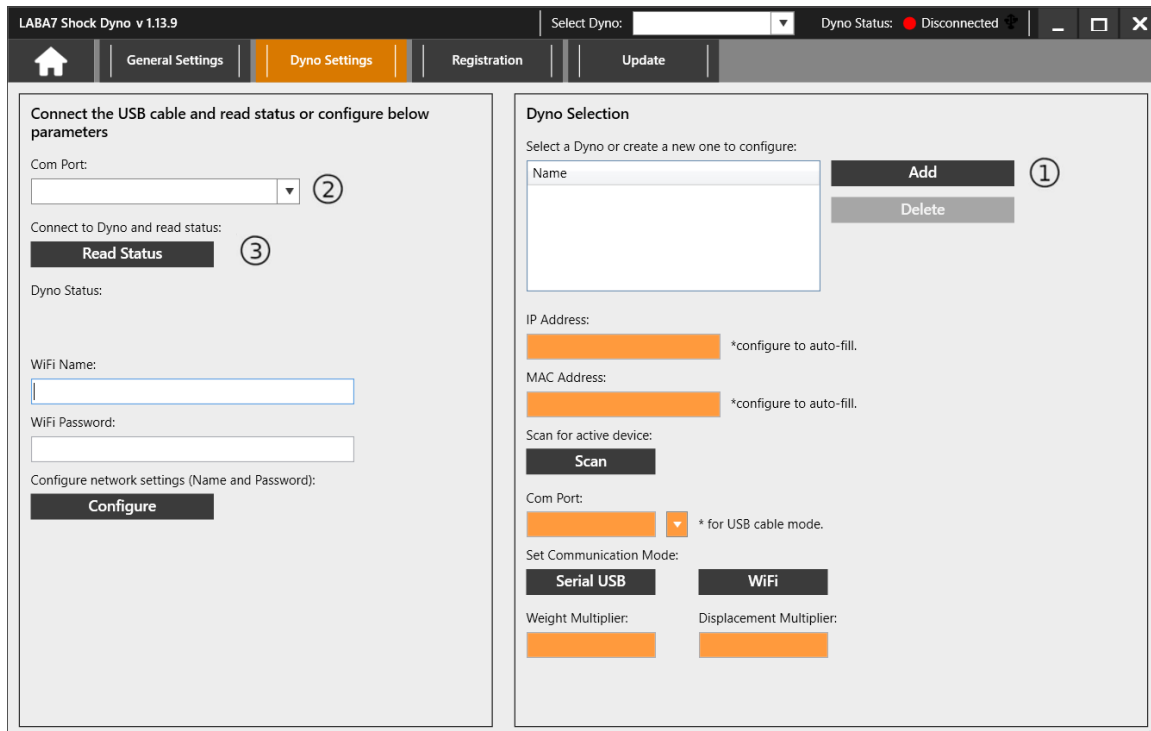

Figure 17
6. Add a new Dyno model by clicking Add button (Figure 17 – Step 1).
10. Select the newly appeared Com Port of the connected Dyno from the drop-down menu (Figure 17 – Step 2).
11. Click the Read Status button (Figure 17 – Step 3).